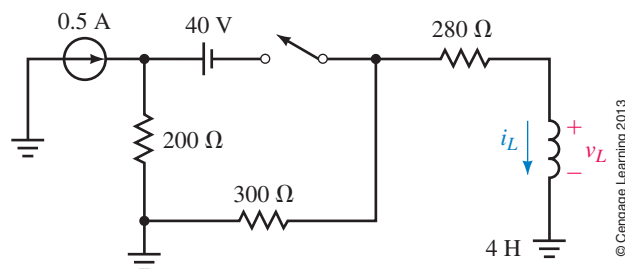

FIGURE 14–47
26. Repeat Problem 23 for the circuit of Figure 14–47, except find v_L and i_L at $t = 13.8\text{ ms}$.